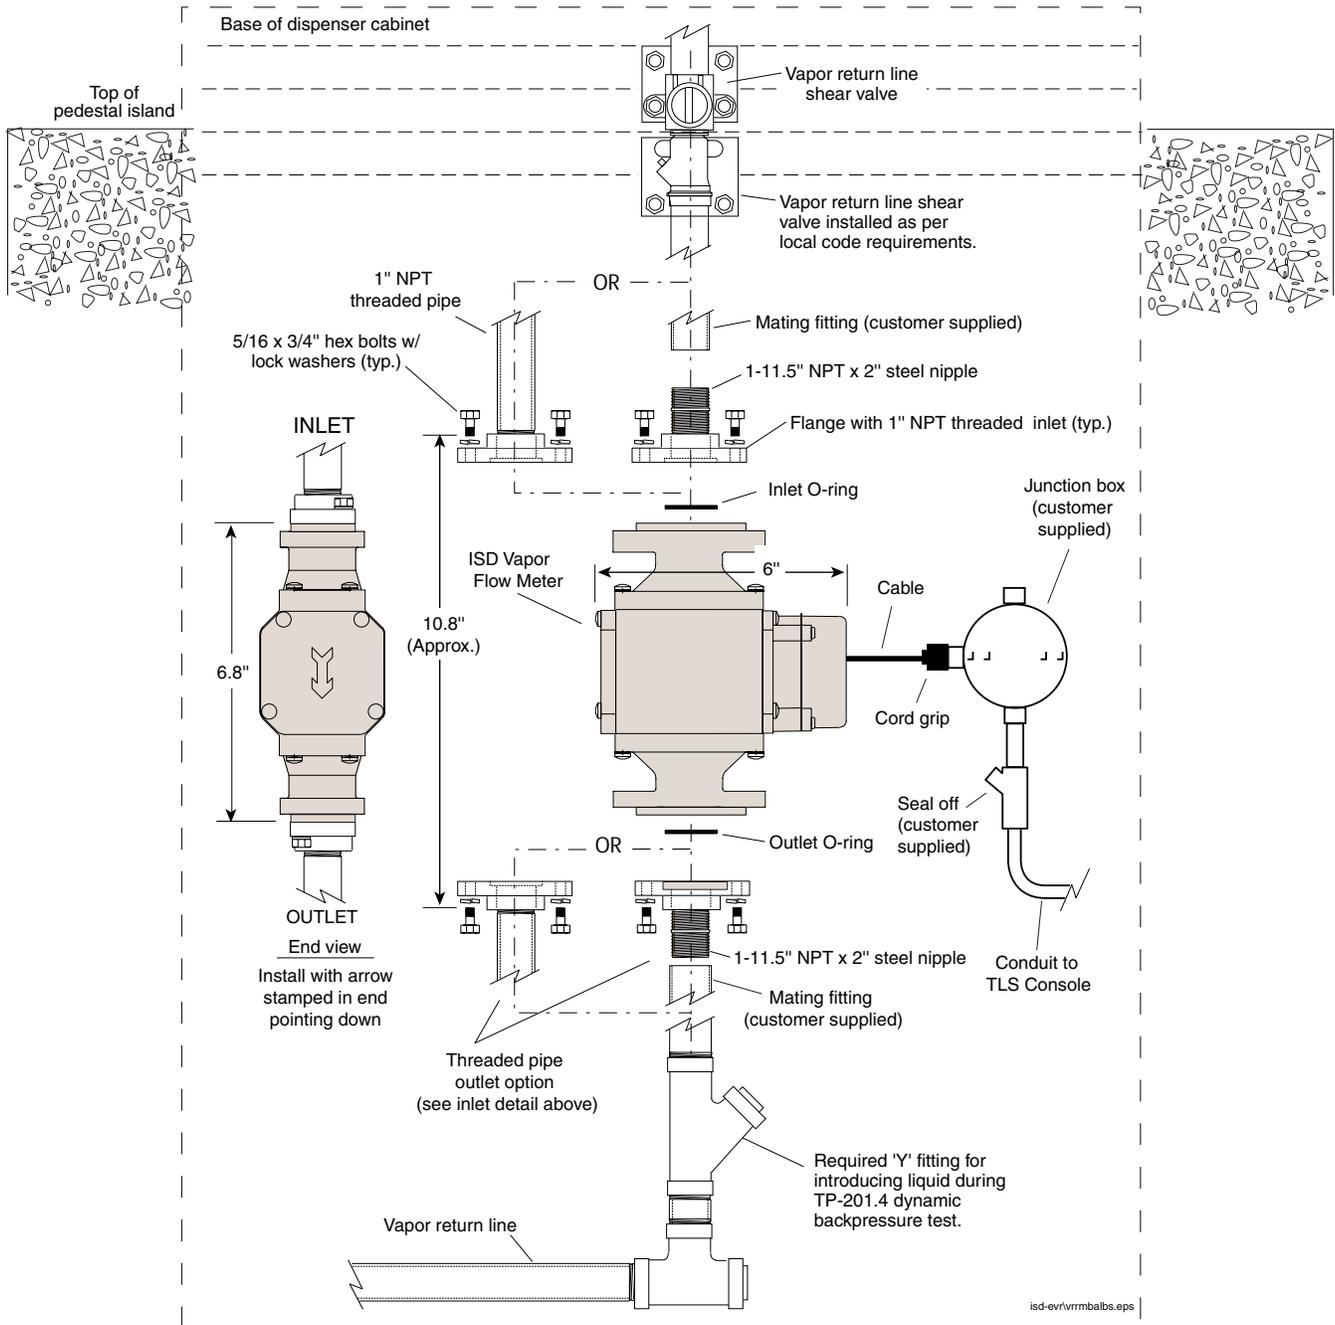

Figure 18-4. Example Vapor Flow Meter Installation Below Shear Valve
4. Connect the lower flange to the pipe that is connected to the lateral or wye access fitting (see Figure 18-4).